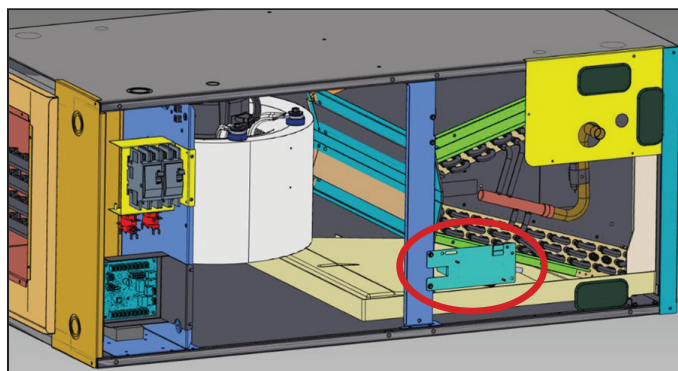

FIGURE 11
- 3 - After coil assembly and center support bracket are reinstalled into unit, with air handler unit panels removed, install sensor bracket assembly to the center support bracket by lining up the holes as shown in FIGURE 11.